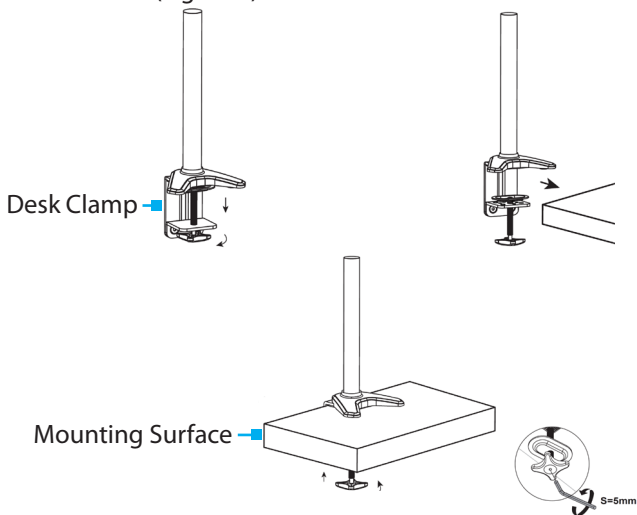

Figure 6
2. Slide the **Pole Assembly Clamp** onto the **Mounting Surface**. (Figure 6)